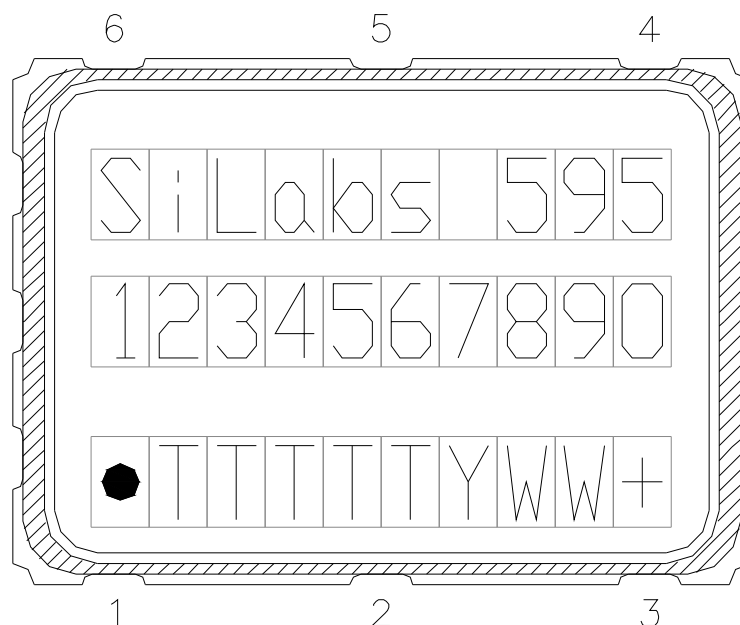

Figure 3. Mark Specification
Figure 3 illustrates the mark specification for the Si595. Table 13 lists the line information.
- Updated Figure 3 and Table 13 on page 9 to reflect specific marking information.